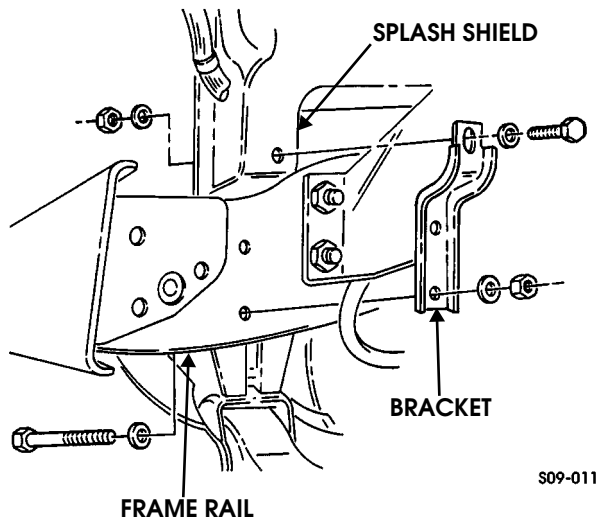

Figure 9-133: Splash Shield Support Bracket Replacement
1. Remove locknut, washer, bolt, and washer securing splash shield to bracket (Figure 9-133).
1. Install bracket on frame rail with two washers, bolts, washers, and locknuts. Tighten locknuts to 90 lb-ft (122 N•m) (Figure 9-133).